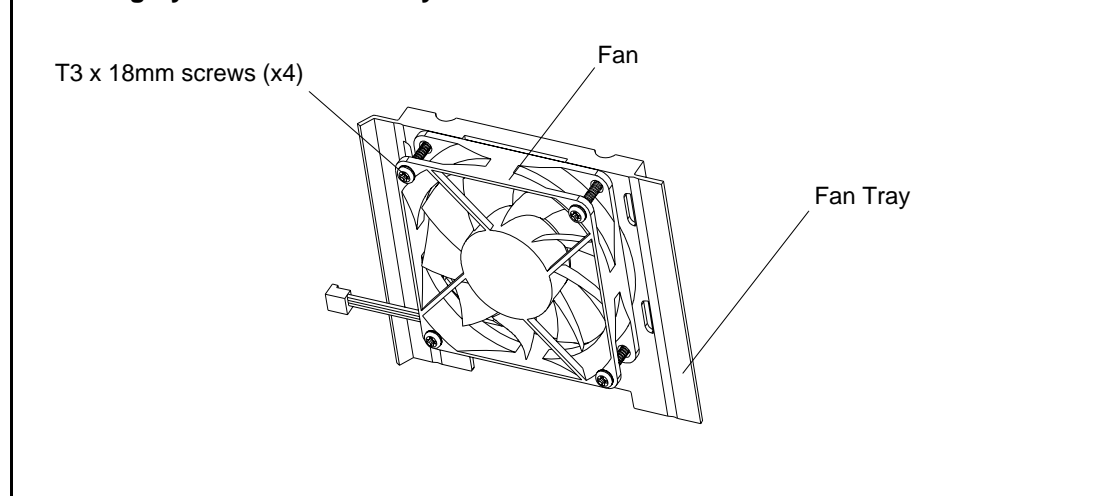

Figure 2-31: LED Cooling System Fan Assembly Removal
- Step 9. As shown in Figure 2-31, perform the following: